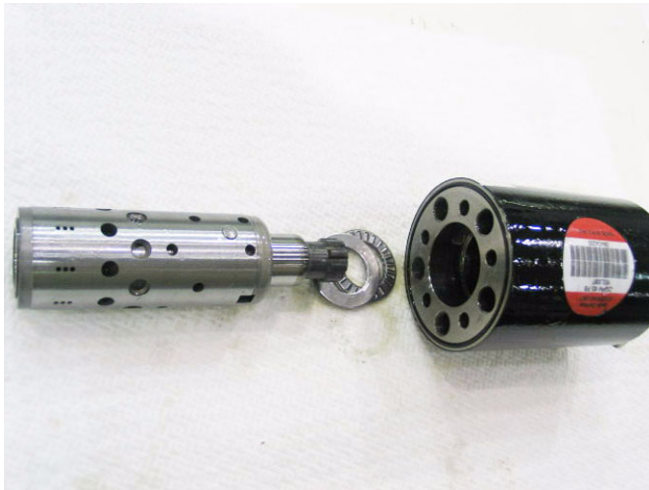

Figure 11.6
11.6. The spool and sleeve can be easily tapped-out of the housing. A thrust bearing assembly fits between the spool and sleeve assembly and the housing. See Figure 11.6.